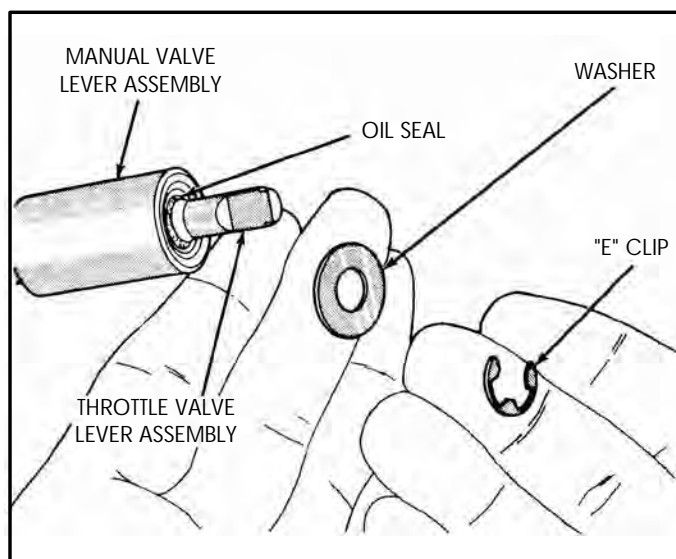

Figure 97
7. Remove the "E" clip and washer from throttle shaft as shown in Figure 97.